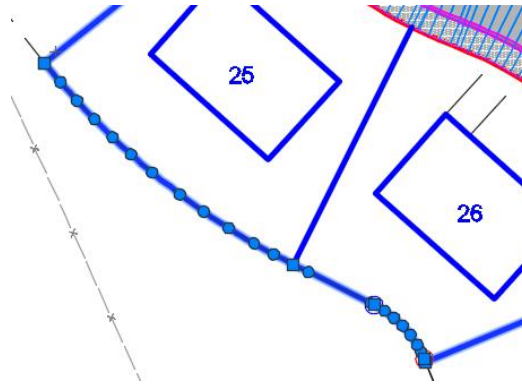

FIGURE 17.7 Circular grips mark elevation points added to match the feature line to the surface.
15. Press `Enter` to complete the command. A number of circular grips are now visible on the feature line (see Figure 17.7). These represent additional elevation points that were required for the feature line to match the surface precisely.